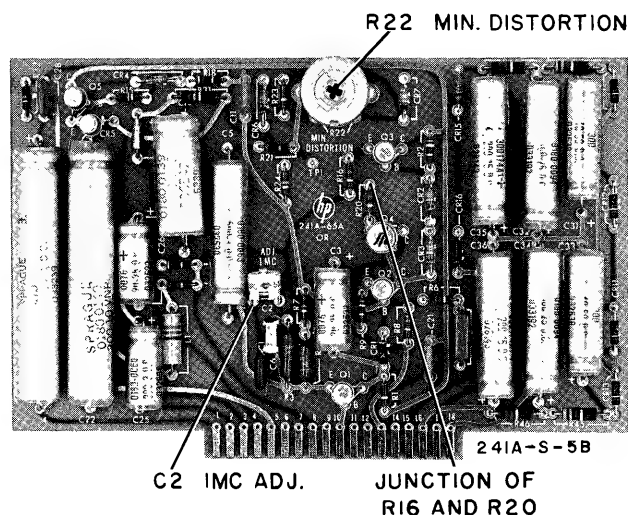

Figure 5-5. Amplifier Board Assembly
Paragraphs 5-18 to 5-21, Figure 5-5 and Table 5-4
- e. Adjust C2 (see Figure 5-5) for an indication of 903 KC.